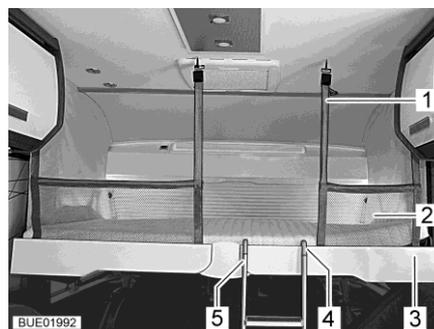

Fig. 140 Pull-down bed complete with applied safety net
If fitted, the safety net (Fig. 140,2) and the retaining belts are located beneath the mattress of the pull-down bed. Only use the safety net if persons are already in the pull-down bed.
- Attach retaining belts (Fig. 140,1) to the hooks on the ceiling.